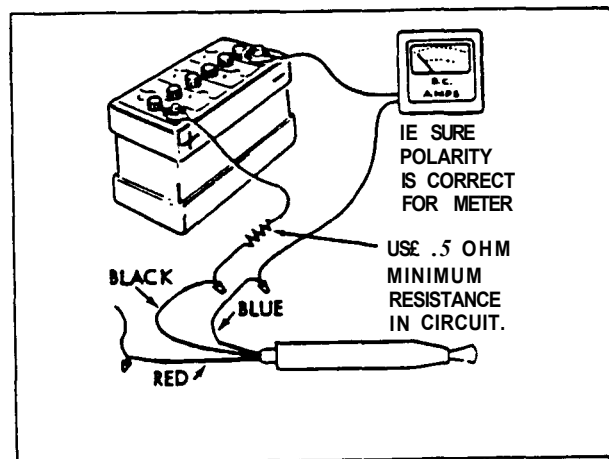

Fig. 2
a. Remove controller from vehicle and connect leads as shown in Figure 2.